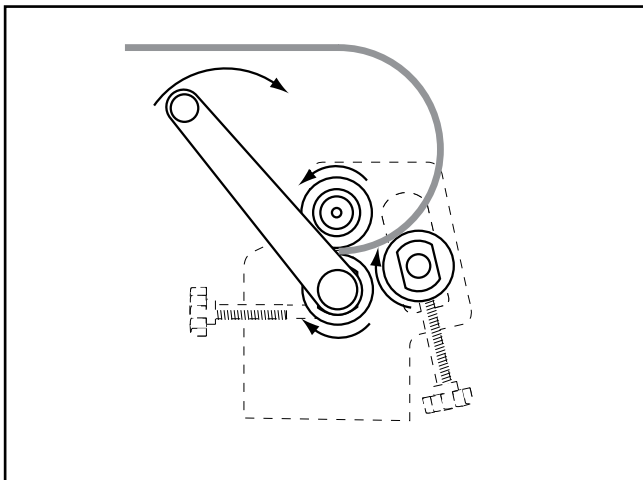

Figure 21. Processing the workpiece.
4. Turn the crank to process the material through the slip roll. Continue turning until the workpiece is completely through the top and bottom rollers (see **Figure 21**).